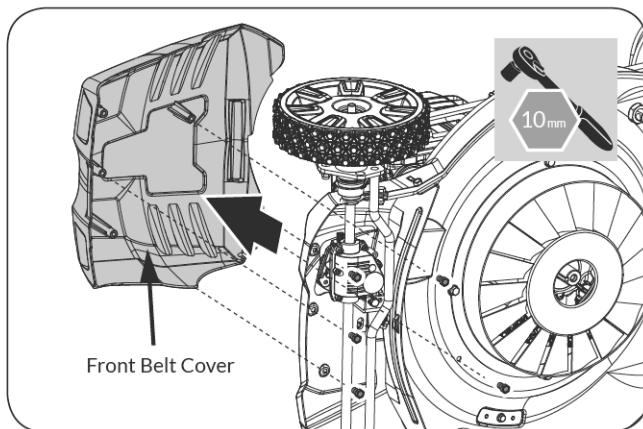

Figure 16
3. Remove the five bolts fix the front belt cover and removing the front belt cover. (See **Figure 16**)